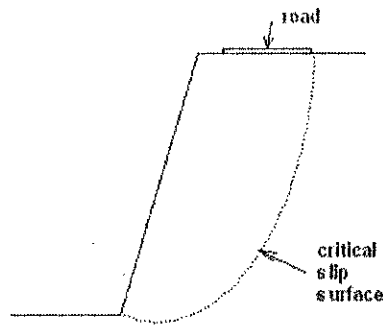

Figure Q8
- (d). Figure Q8 shows a natural slope with the most critical failure surface indicated with the dotted line as shown and the slope needs to be stabilized to protect a newly constructed road as shown. Propose a method to stabilize the slope without changing the slope geometry. Explain the concept behind your proposal. (05 marks)